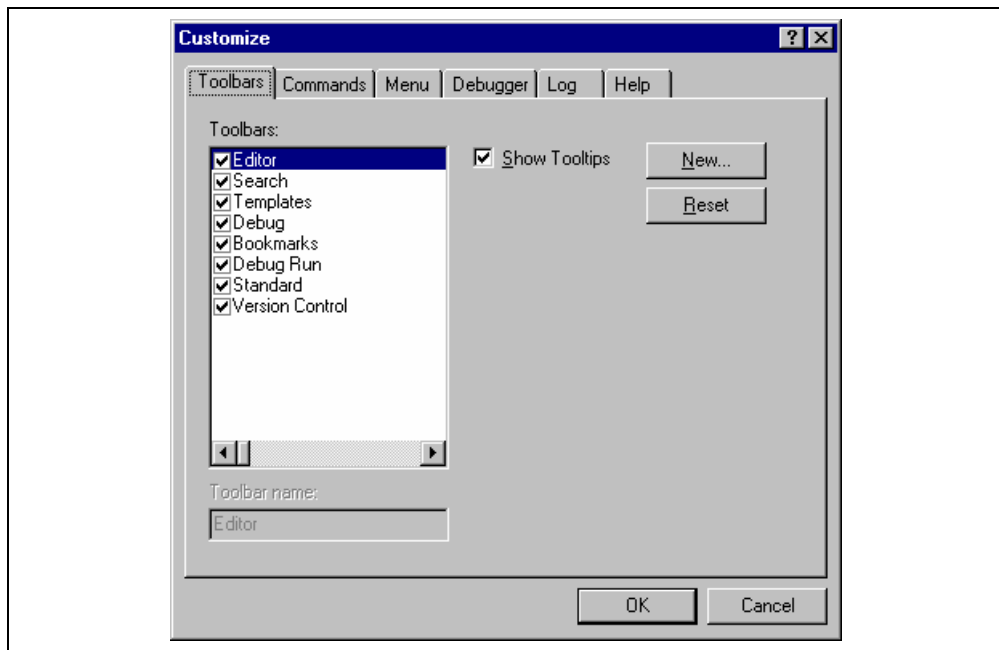
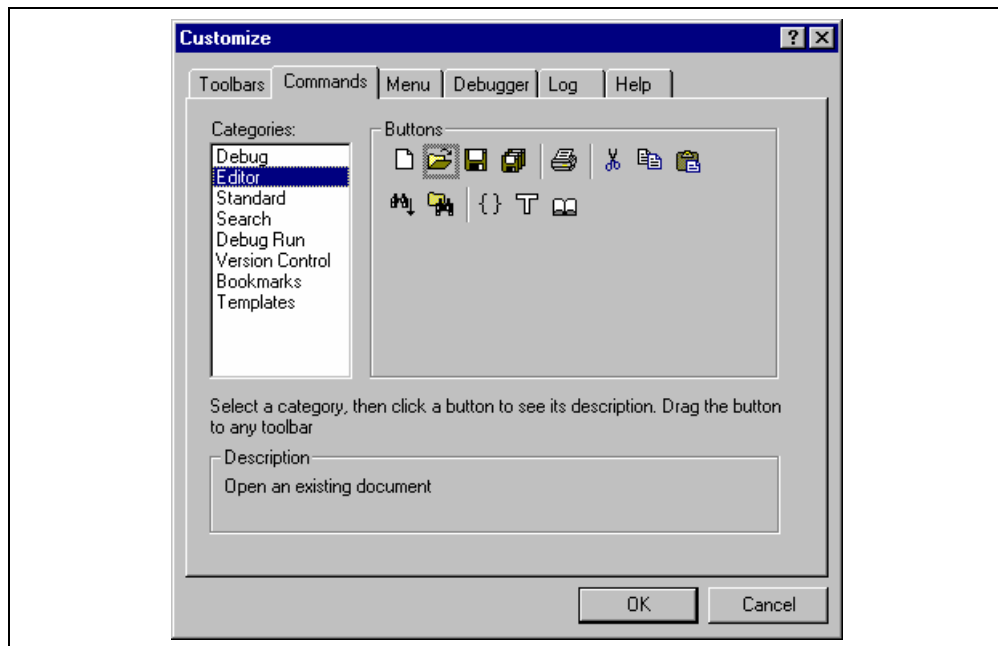
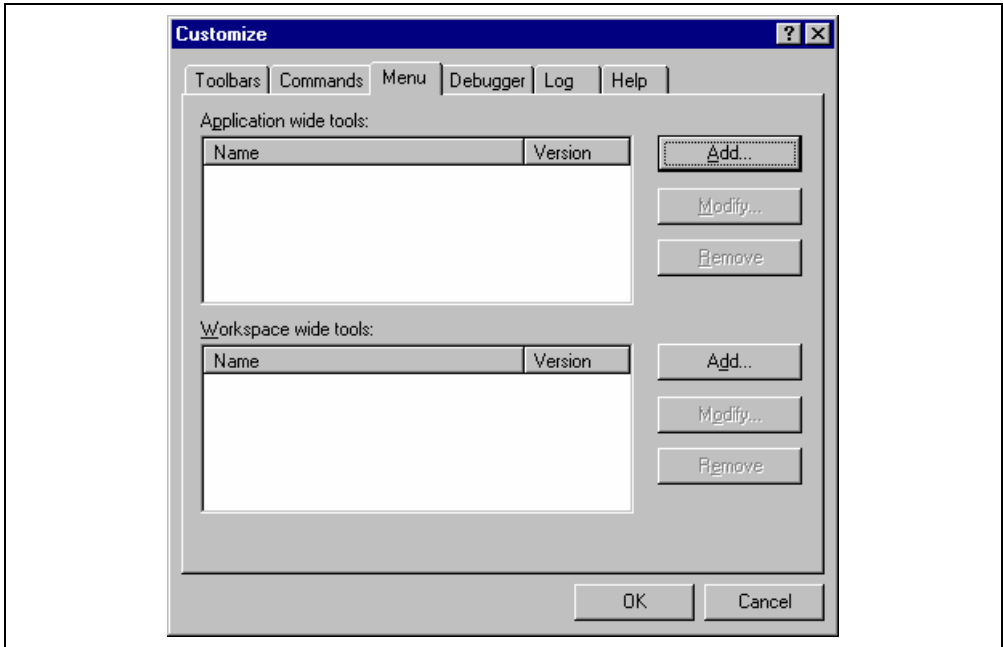
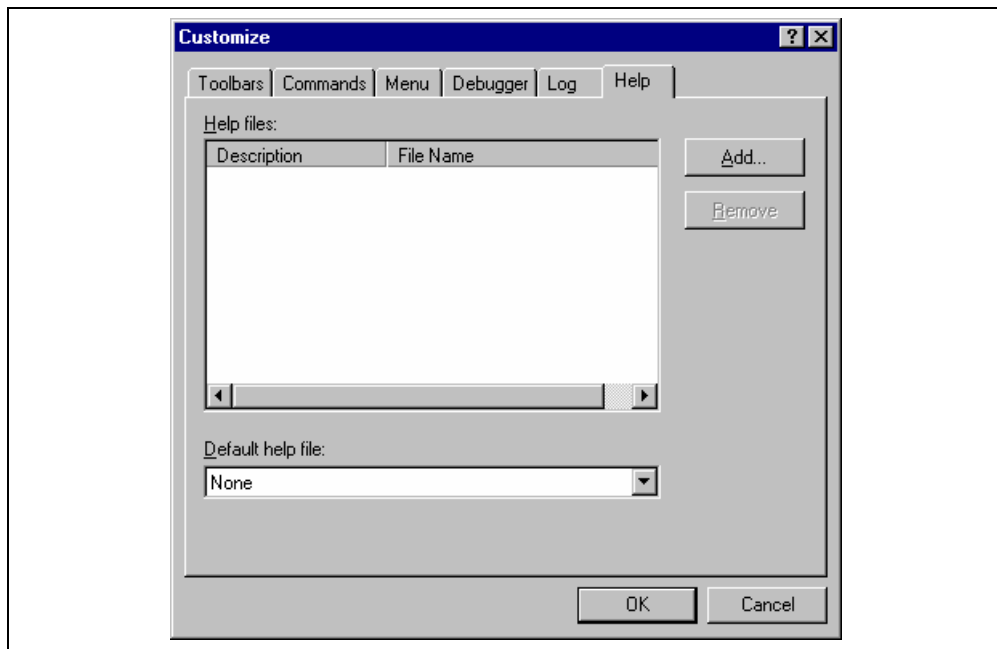

Figure 6.1: Customize Dialog Toolbars Tab
Figure 6.3: Customize Dialog Commands Tab
Figure 6.4: Customize Dialog Menu Tab
Figure 6.7: Customize Dialog Help Tab
The High-performance Embedded Workshop provides 2 standard toolbars as detailed in chapter 1, “Overview”. In addition to these, you may also construct your own toolbars via the “Customize” dialog (figure 6.1).
1. Select [Tools->Customize...]. The dialog shown in figure 6.1 will be displayed.
1. Select [**Tools->Customize...**]. The dialog shown in figure 6.1 will be displayed. Select the “Commands” tab (see figure 6.3).
1. Select [**Tools->Customize...**]. The dialog shown in figure 6.1 will be displayed.
2. Select the user-defined toolbar from the “Toolbars” list, and the “Reset” button in figure 6.1 changes to the “Delete” button. Then click the “Delete” button.
1. Select [**Tools->Customize...**]. The dialog shown in figure 6.1 will be displayed. Select the “Menu” tab (see figure 6.4). The first thing for you to decide is whether you are adding a global application wide tool (“Application wide tools:”), which will be available to all of your workspaces. Or whether you wish to add a workspace wide tool (“Workspace wide tool:”), which is only valid for the current workspace. Once you have made the choice choose the relevant section of the dialog.
1. Select [**Tools->Customize...**]. The dialog shown in figure 6.1 will be displayed. Select the “Menu” tab (see figure 6.4).
1. Select [**Tools->Customize...**]. The dialog shown in figure 6.1 will be displayed. Select the “Help” tab (see figure 6.7).